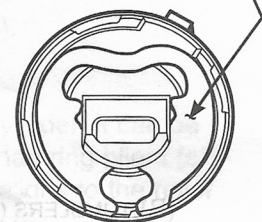

FIGURE 9
15. If the original lock contained a black retainer ring (I), located on the back of the lock cylinder, it can be reused by reinstalling it onto the back of the cylinder (D) by spreading it open using snap ring pliers (or equivalent) and placing it over the tail of the cylinder (D). Locate the ring (I) so that it aligns to the relief notches in the back of the cylinder (D) (refer figure 9) for proper orientation of the ring (I).